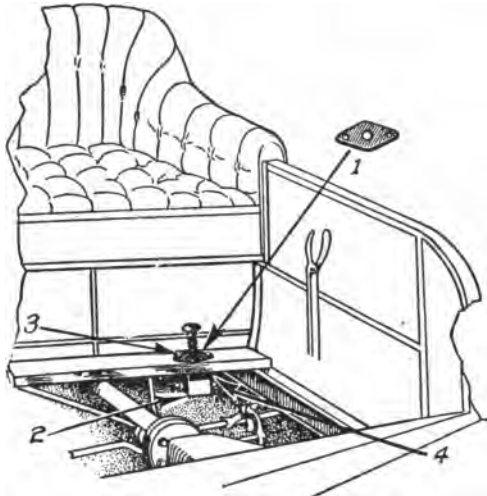

Fig. 375. Installation of Starting Switch
*Starting Switch.* The location of the starting switch and the method of installing it are shown in Fig. 375. Take the plate 1 off the starting switch and use it to mark the holes in the floor strip two inches in front of heel board and nine inches from the sill, as shown in the illustration. Make three holes for the starting switch in the rear floor strip 2 and attach the switch with bolt 3 at the side nearest the center of the car; then attach the other switch bolt 4, support